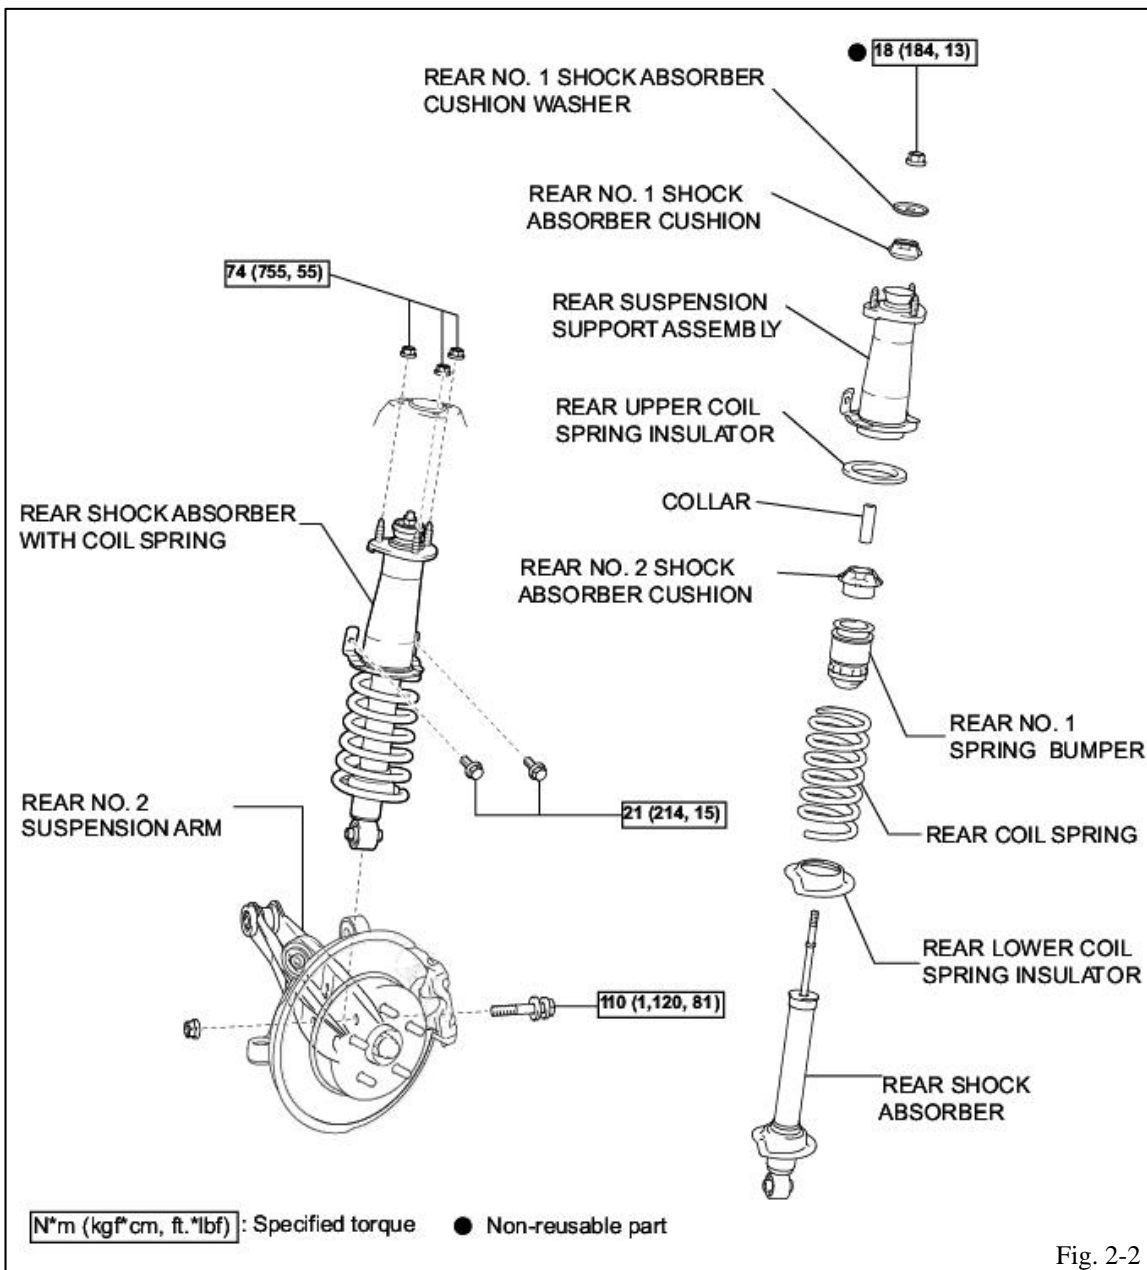

Fig. 2-2
- (b) Reassemble the shock absorber/spring assembly as shown below (Fig. 2-2).